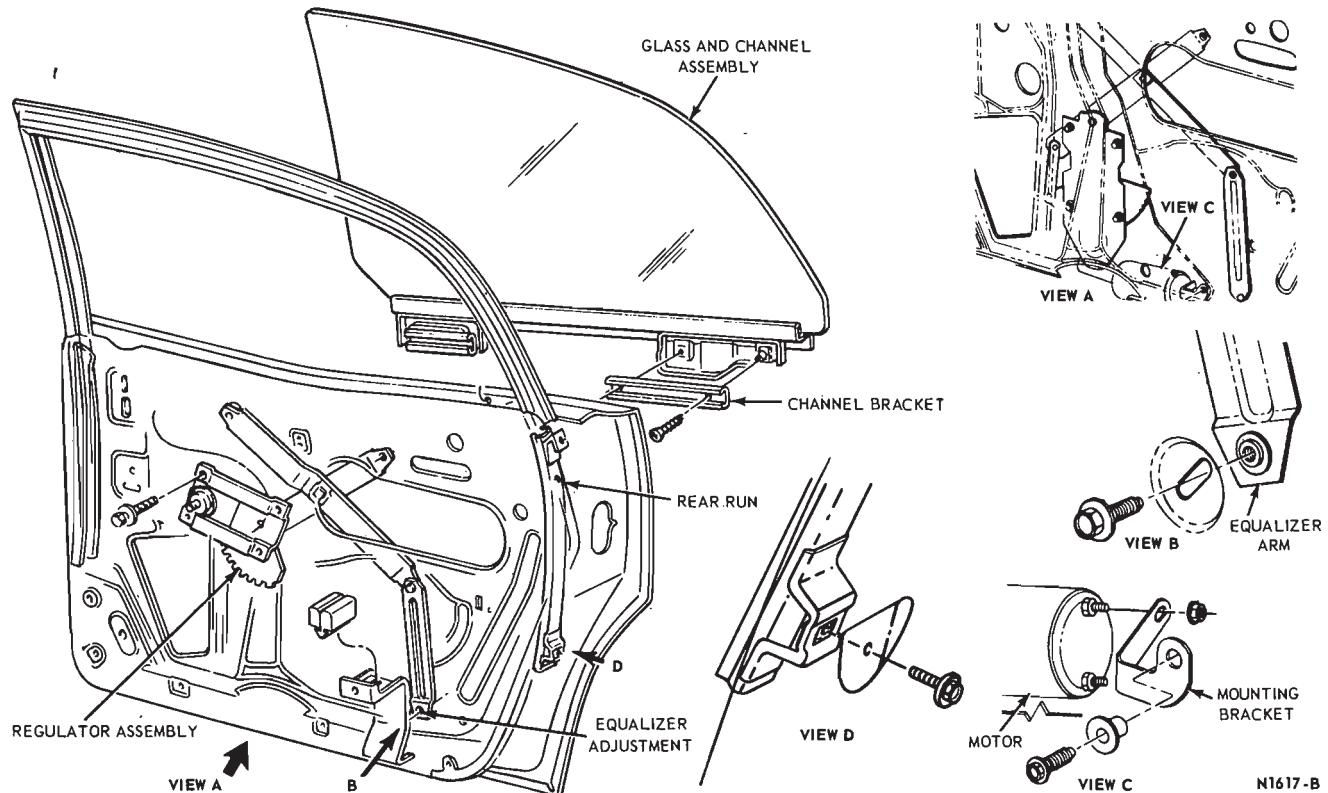

FIG. 20—Rear Door Window Mechanism—Fairlane and Montego—Model 54
3. Remove two screws attaching the glass channel to the front and rear roller carriers (Fig. 20) and lower the glass to the bottom of the door.
4. Position the front and rear roller carriers to the glass channel and install the two attaching screws (Fig. 20).